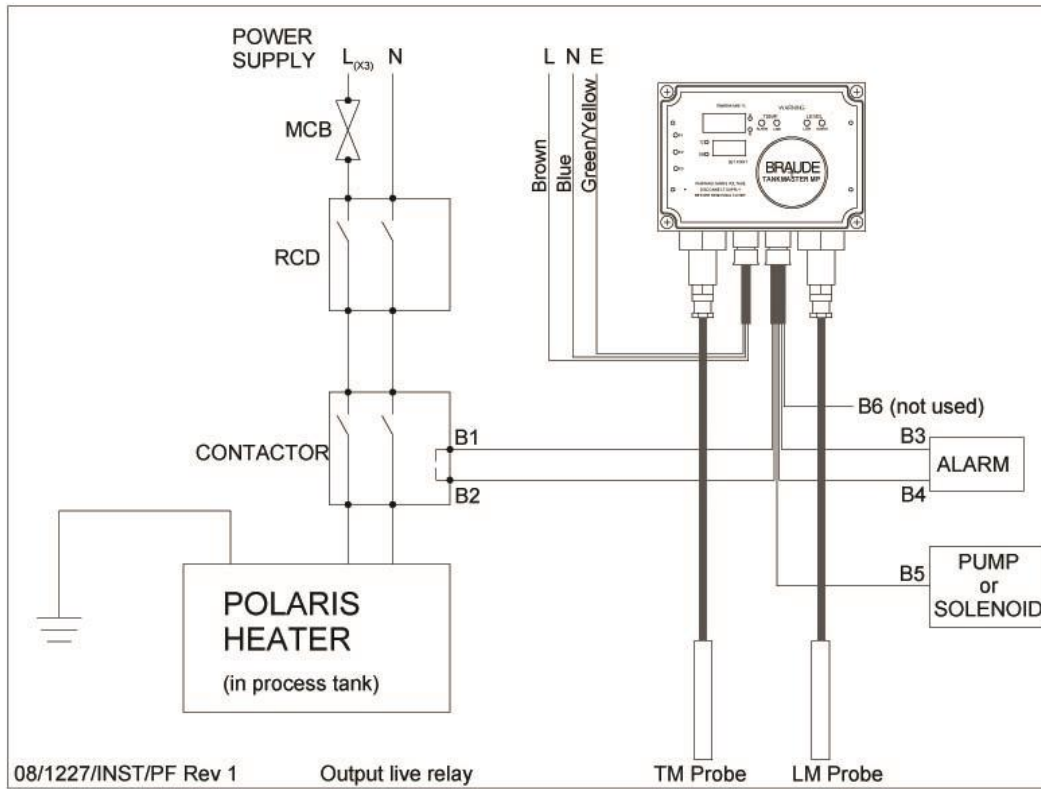

Fig 3: Wiring diagram for Tankmaster connected to Polaris heater (Live relay)
- The controller is rated at 5 amps, any heater or pump likely to draw more current should be connected through a contactor as shown in the wiring diagrams Fig 3 or 4.
Refer to wiring diagram Fig 3 on page 7